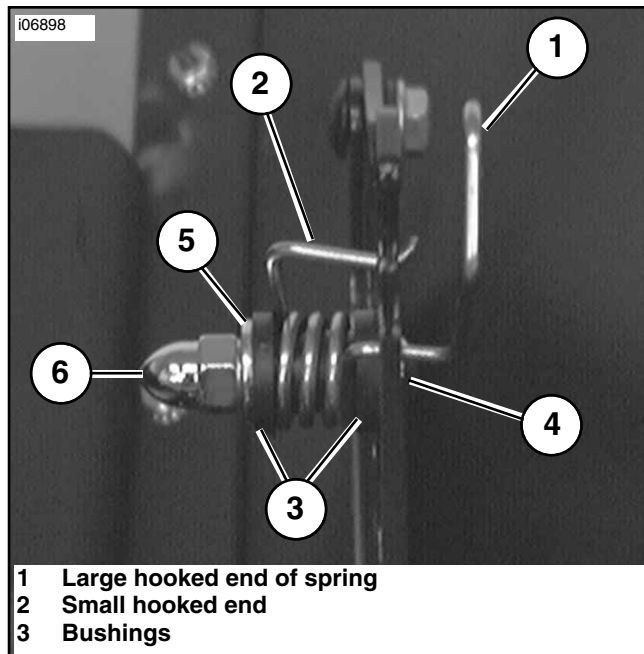

Figure 3. Rear view of installed spring
5. See Figure 3. Feed the large hooked end of spring (1) through the slot in the bracket. Slide the spring until coiled portion aligns with the 1/4" hole in bracket. Compress ends of spring together and feed the small hooked end (2) through the same slot that the large hooked end went through. Insert bushings (3) into coiled ends of spring as shown. Line up the spring and bushings with the 1/4" hole and fasten with screw (4), washer (5) and acorn nut (6) as shown.
6. See Service Parts Illustration. Mount attaching brackets (6) to outside face of brackets (14, 15) using shoulder bolt (18) washer (20) and locknut (21). Leave assembly snug to allow for adjustment later.
7. Place wellnuts (16) into fairing (3) and attach headlight cover (7) with washers (4) and screws (2).
8. Remove the backing to the adhesive backed pads (23) and attach them in the locations shown. Two pads are placed on the upper corner of the fairing in the windshield recess and two pads are placed on the inner surface of the windshield in the bottom corners.
9. Attach windshield (1) to fairing using the 4 gaskets (19) along with screws (2), washers (4) and nuts (22). The windshield can be positioned in two different locations. The upper position allows air to pass through fairing creating a more open feel when riding. To change positions, remove screws and rotate the gaskets (19) to plug the unused holes and reinstall the windshield and screws.